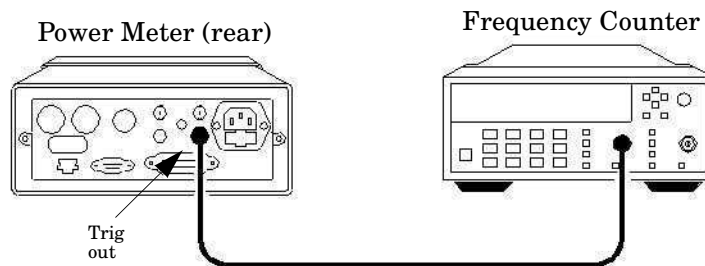

Figure 2-8: Time Base Accuracy Test Setup
1. Connect the equipment as shown in Figure 2-8.